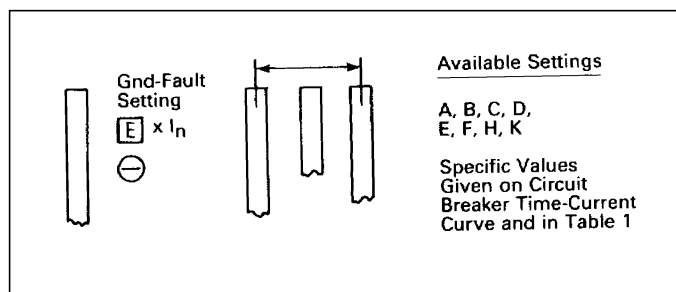

Fig. 4.6 Ground Fault Current Settings
The eight (8) Ground Fault Current Settings are labeled with the code letters “A” through “K” (except there are no “G” or “I” settings), as illustrated in Fig. 4.6. In general, the specific current settings range from 0.25 to 1.0 times (I_n), the rating plug value, but cannot exceed 1200 A. The specific Ground Current Settings for each letter are listed in Table 1 and on the applicable Time-Current curve for the breaker.